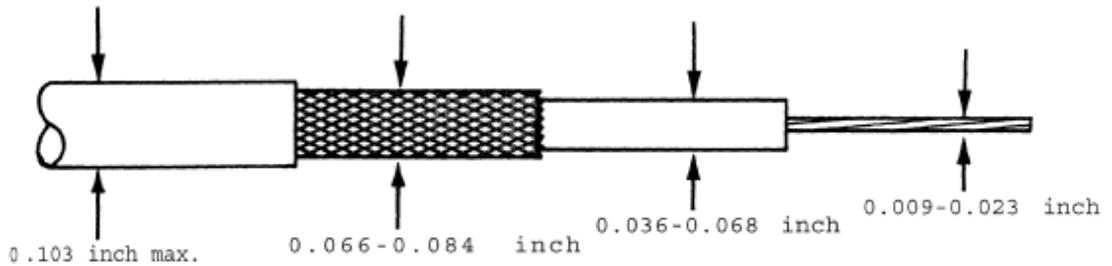

Figure 5-1. Coaxial Cable Size Accommodation: Conventional Stripping
D-602-0140, D-602-0141, and D-602-0171 SolderTact contacts can be terminated to coaxial cable of the dimensions shown in Figures 5-1 and 5-2.
- Figure 5-1 applies to cables prepared using conventional stripping.